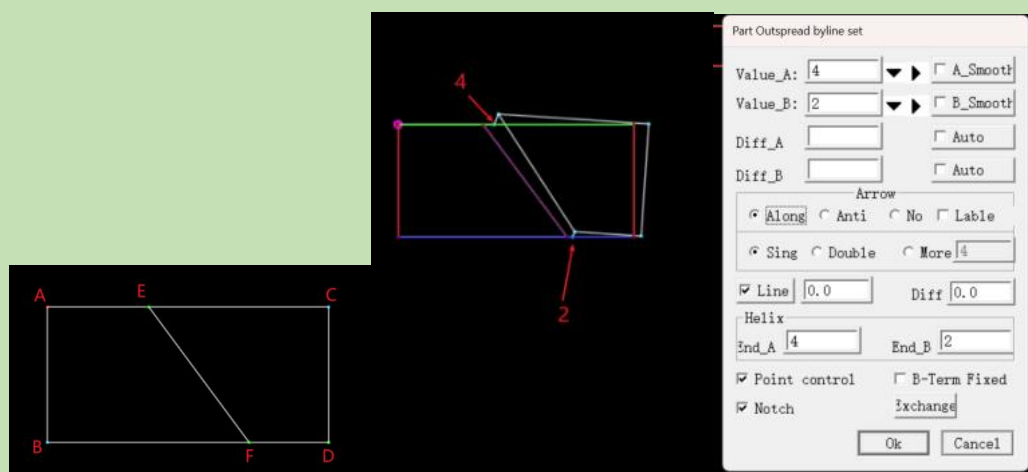

Figure4-99
9. Part Outspread\_L: For the figure shown in the following figure, after selecting any pleat, click on lines AC and BD respectively. Then click on the unfolding line EF (right-click in the blank area after left-clicking it). Finally, click on the following moving line CD and right-click. After the dialog box pops up, set it according to your needs (for specific content, refer to the operation introduction of the special tool group), as shown in Figure 4-99.